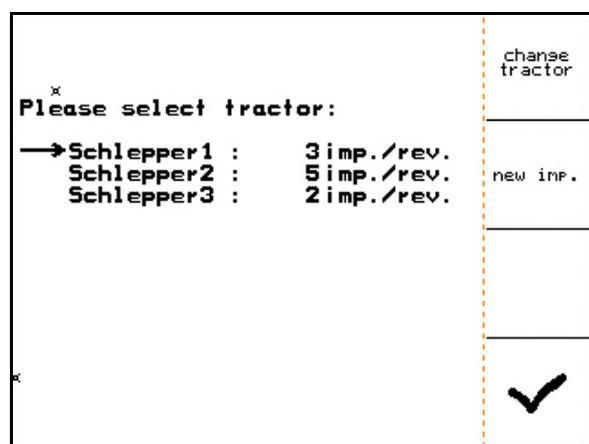

Fig. 41
2.  Select the tractor (Fig. 41/1).